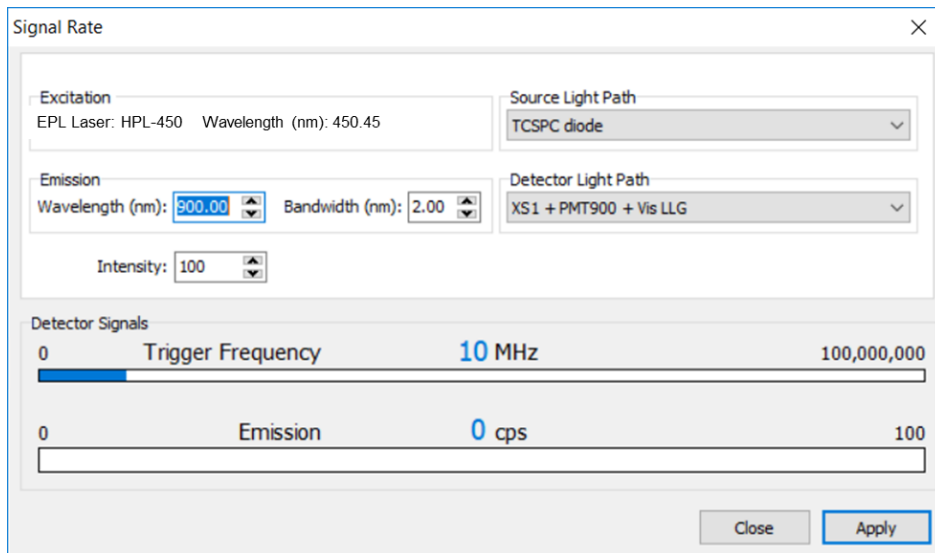

Figure 17: Signal rate screen for a TCSPC source configured for quasi CW measurements.
- a. Select the appropriate light paths on the signal rate window (Figure 17), i.e. TCSPC diode light path as the excitation source, and the XS1 as the emission path with the correct emission properties (grating, detector and light guide).